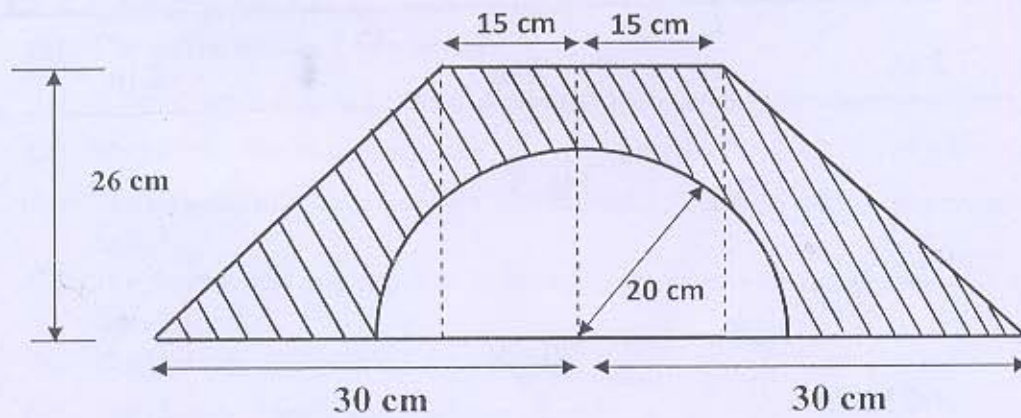

Fig. 2
- Q - 3 (a) Locate the position of the centroid of the plane shaded area depicted in Fig. 2. [07]